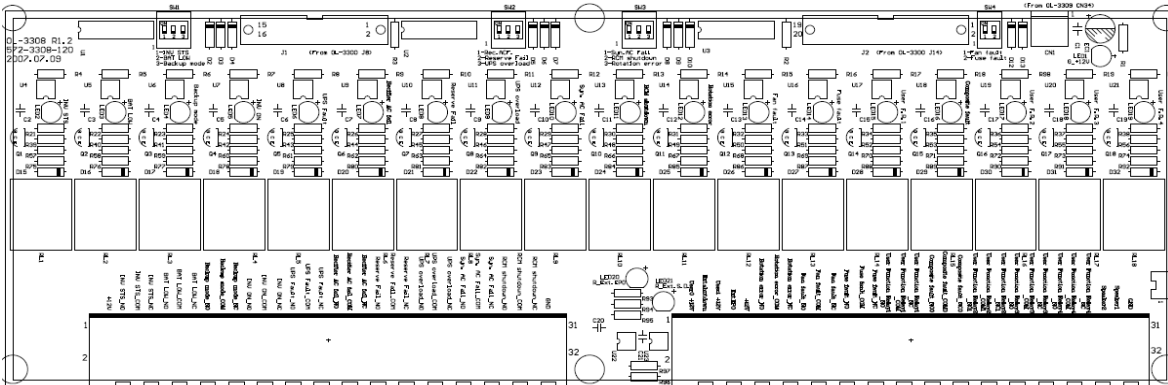

figure 5-7-1: Remote Monitoring Board Detailed Configuration
- (1) PCB-3308 dry contact outside view, shown in figure 5-7-1
- (2) PCB-3308 to definition the functional of the dry contact board, shown in Table 5-7-2.